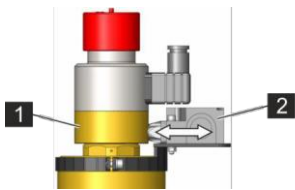

Fig. 8: Adjusting switch
5. Move the switch (Fig. 8/2) away from the release device (Fig. 8/1) as far as possible.